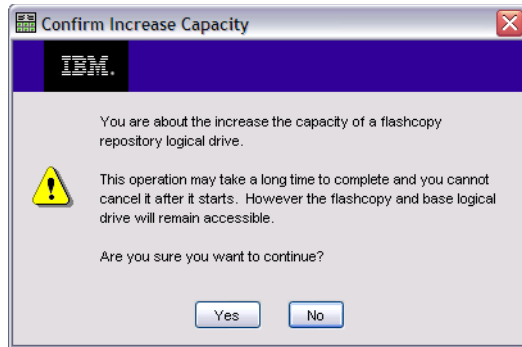

Figure 11-46 Modify - increase FlashCopy Repository drive size confirmation
6. Type the amount of capacity you want to add to the repository drive, click **Finish**, review the warning window (Figure 11-46), and click **Yes** to continue.